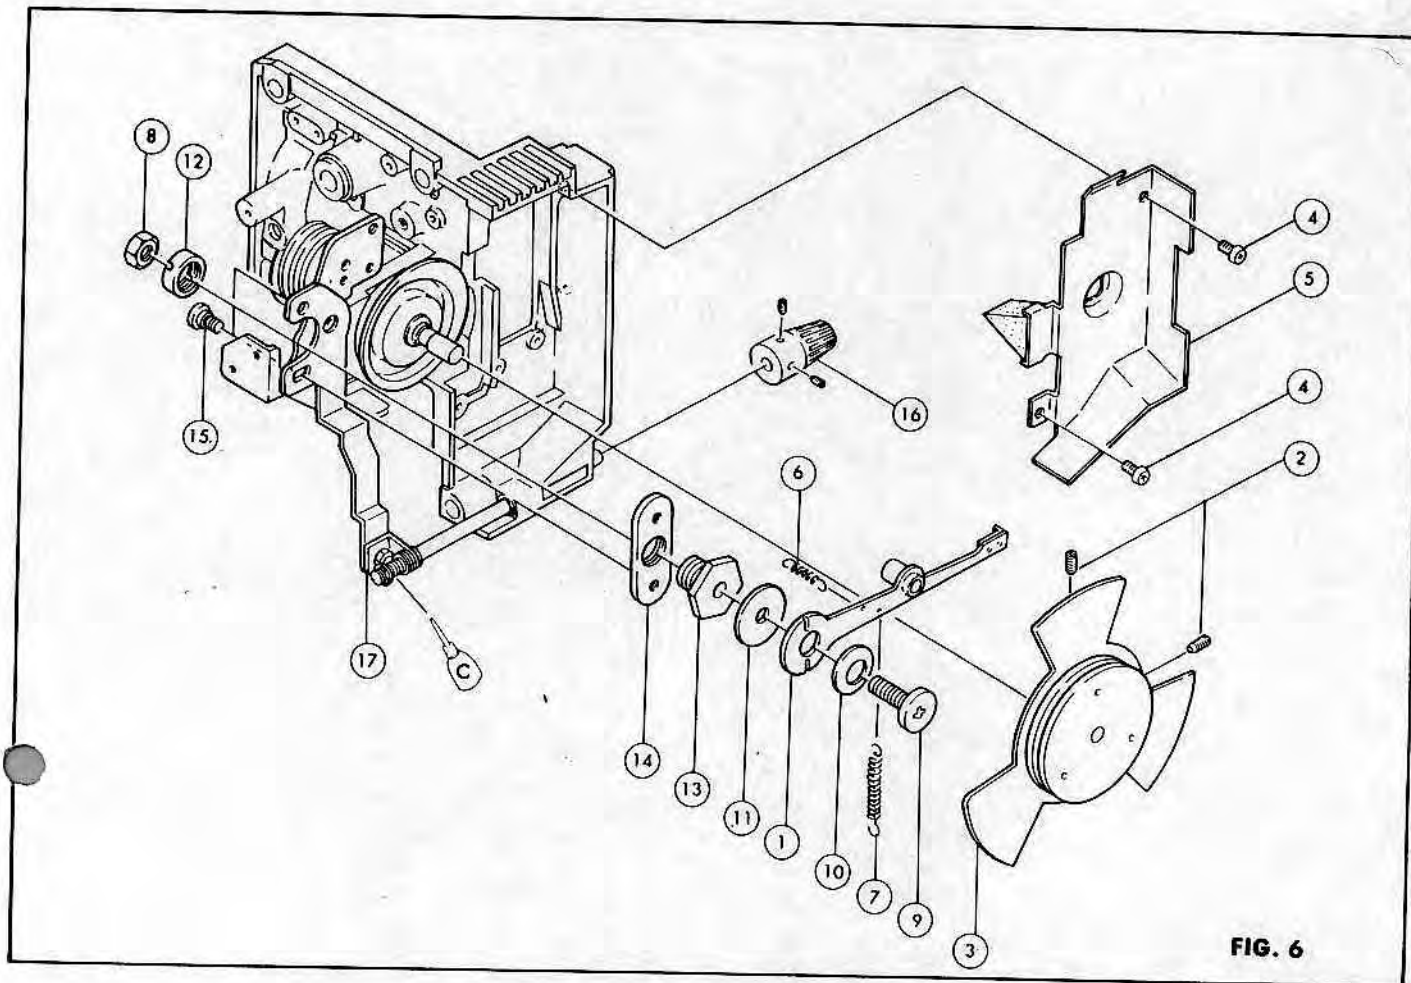

FIG. 6
TROUBLESHOOTING: (Refer to Fig. 6)
1. Take off the (3) after unscrewing the (2)x2.
2. Take off the (5) after unscrewing the (4)x2.
3. Unhook the (6)(7).
4. Take off the (9) after unscrewing the (8) and then remove the (1). The (10)(11) will fall off.
5. For further disassembly, refer to Fig. 6.
6. Attach the (6)(7) in Fig. 6 and adjust their spring pressure as follows:
a. Make sure that oil doesn't adhere to the (3)'s pulley in Fig. 6.
Attach the machine frame to the body. Project the resolving power film (P054). Measure the width between the aperture mask upper line and picture bottom line appearing when the framing knob is turned fully clockwise. Memorize this width. Next measure the width between the mask bottom line and picture upper line appearing when the knob is turned fully counterclockwise. The former width and the later should be in ratio of 6:4. If not, adjust the (17) position in Fig. 6.